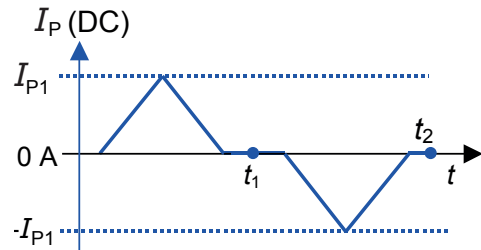

Figure 2: Current cycle used to measure magnetic and electrical offset (transducer supplied)
- or in a known magnetization state, like in the current cycle shown in figure 2.